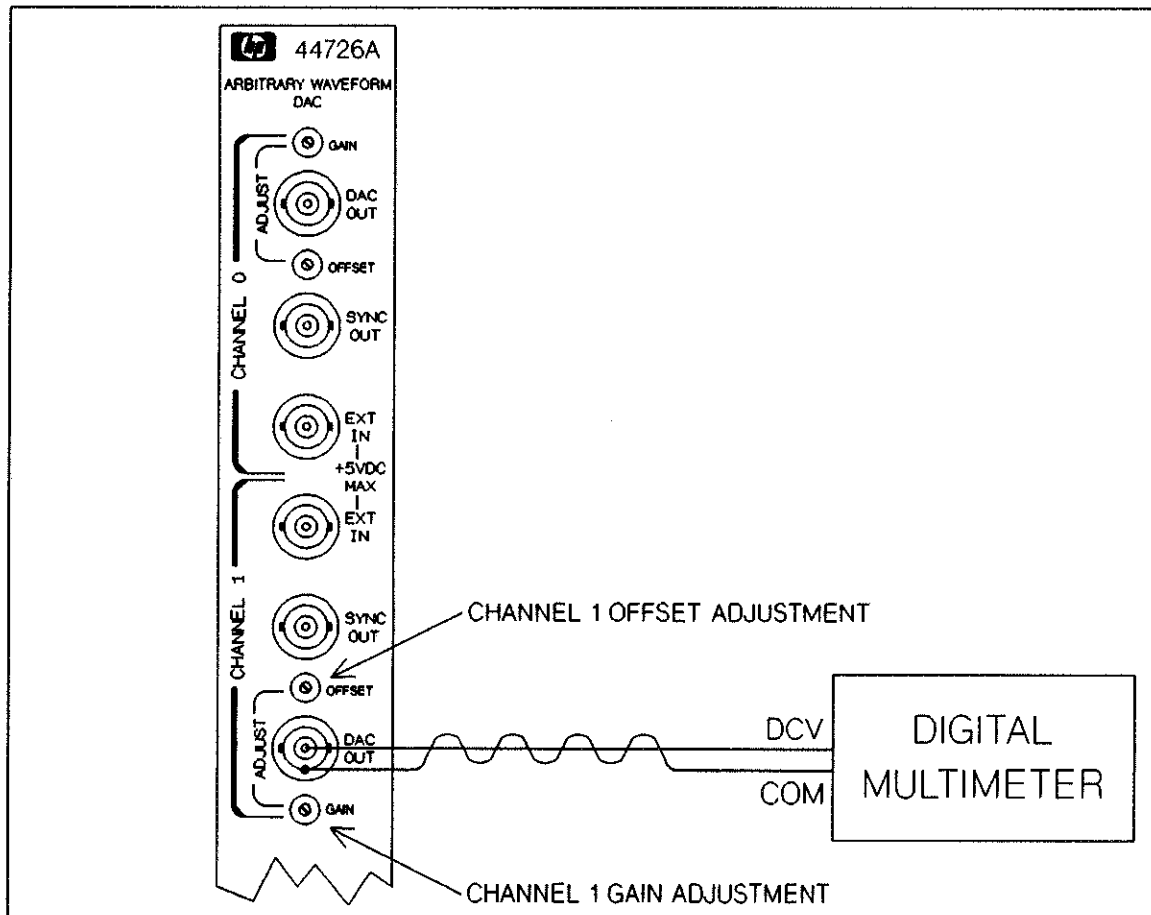

Figure 21-16 Channel 1 Calibration
11. Using the previous procedure (steps 1 through 10), calibrate channel 1. Refer to Figure 21-16 for the calibration connections and gain/offset adjustment locations. The APPLY DCV commands in steps 3, 5, 7, and 9 should reflect channel 1 (e.g., APPLY DCV ES01, -10.235).